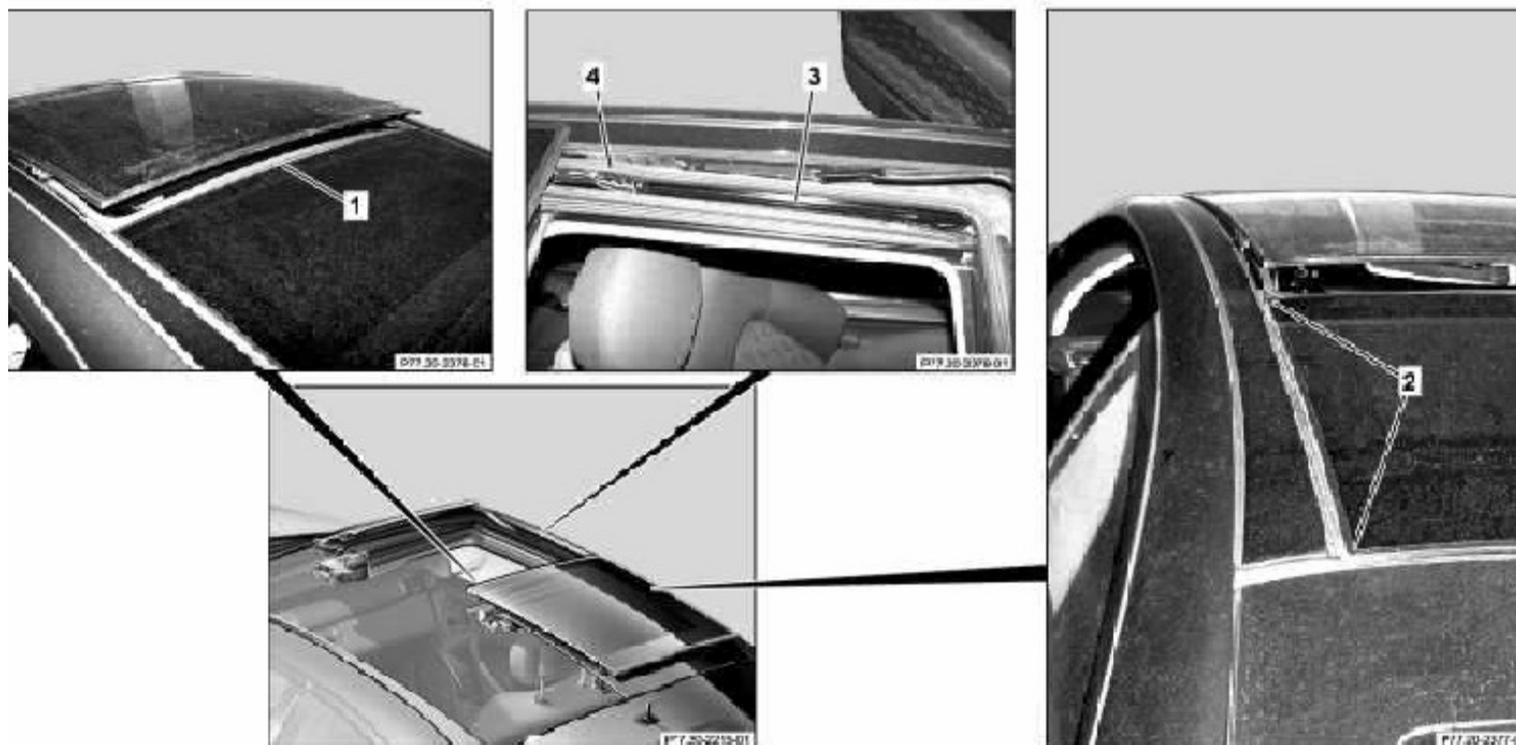

Figure 1
2. Use a thin brush and apply special oil to the outer guide rail (Figure 1, 2) along its entire length.
2. Lubricate slide rail (Figure 1, 3) and rear gate (Figure 1, 4) with brush and lubricant